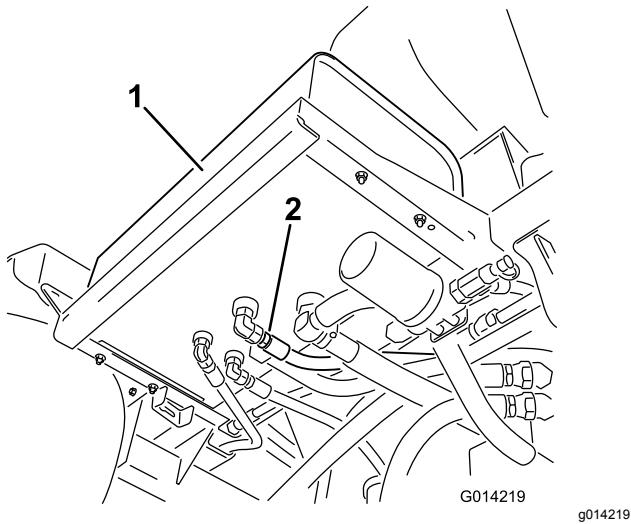

Figure 100
2. Clean the area around a hydraulic-hose fitting on the bottom of the hydraulic-fluid tank (Figure 100).
4. Remove the hose fitting from the tank, allowing the fluid to drain into the pan (Figure 100).